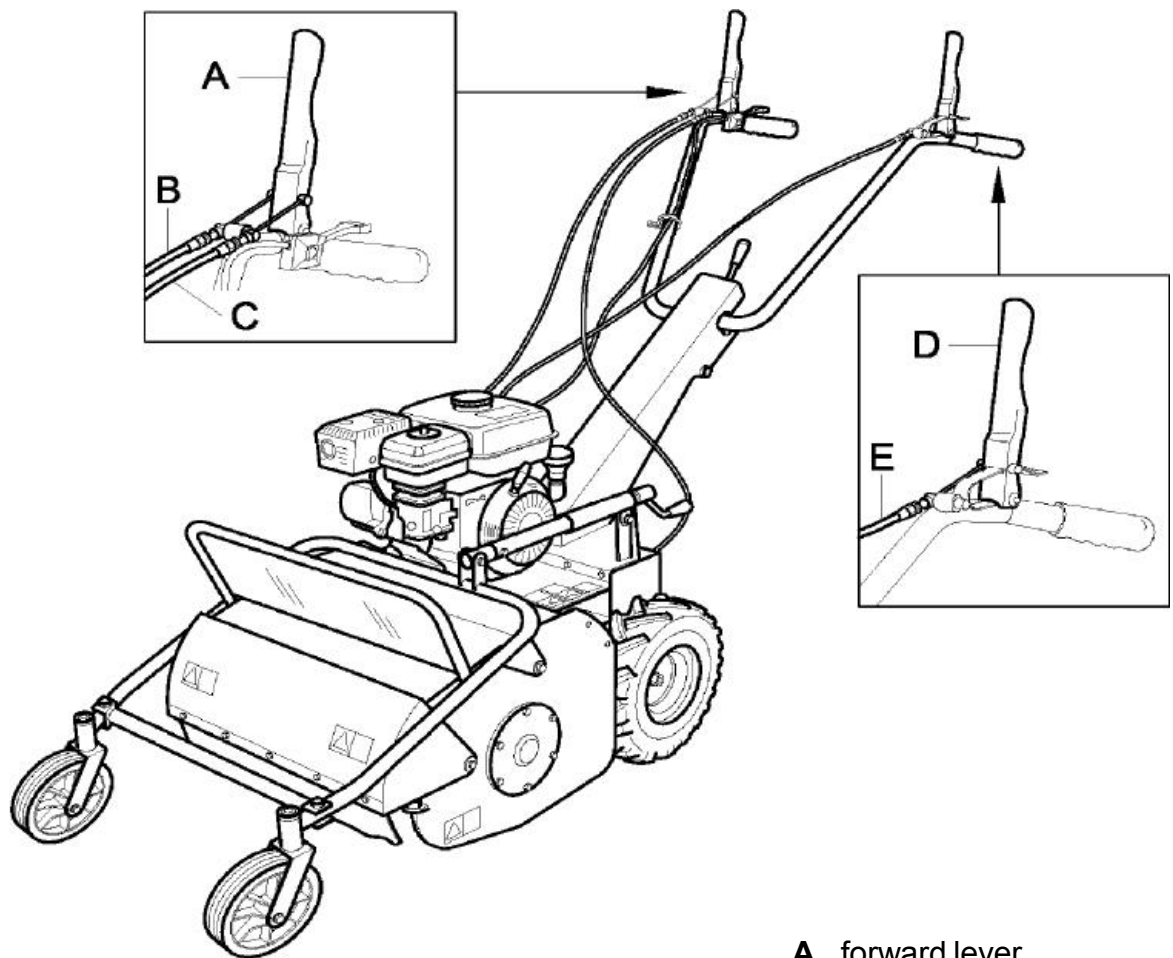

Figure 5
The cable is controlled by the lever located on the handlebar as show Fig 5 Rif. D.
Both cables are controlled at the same time by the lever located on the handlebar.(Fig.5 Rif A).
- using the brake adjuster located on the handlebar (fig 5 pos.C)